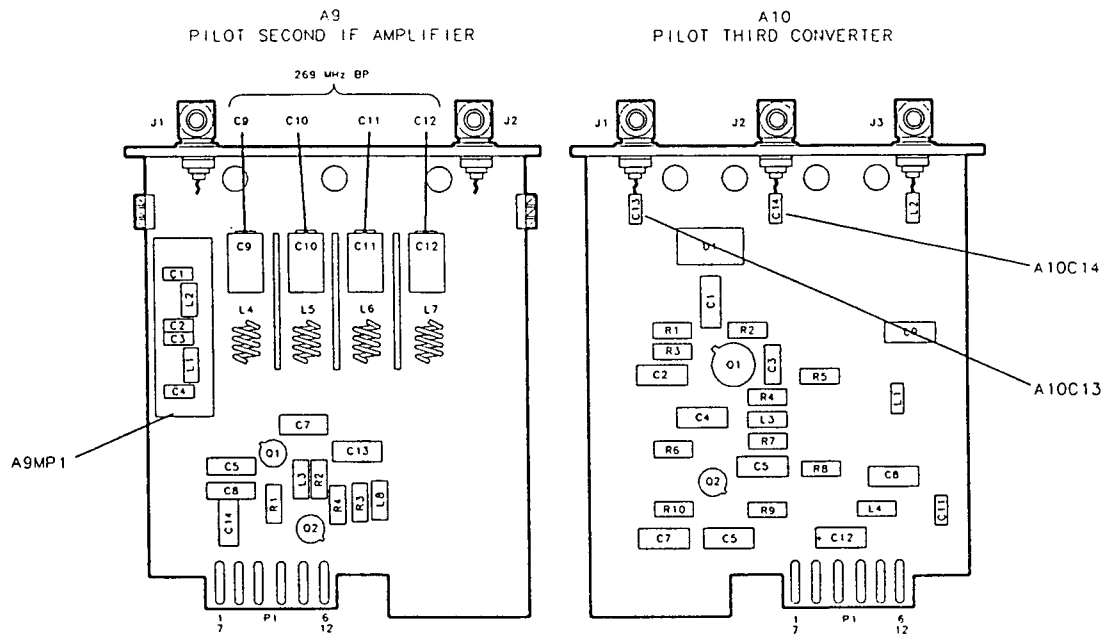

Figure 1. Component Locations
4. Solder A9MP1 (HP part number 7100-1304) to the ground plane as shown in Figure 1.